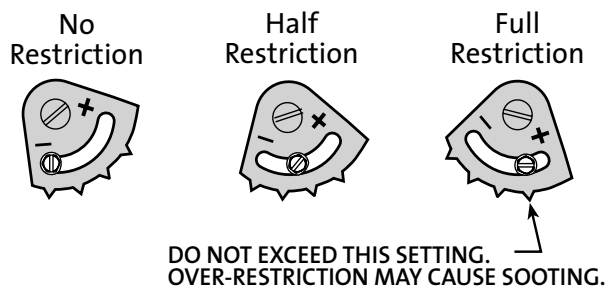
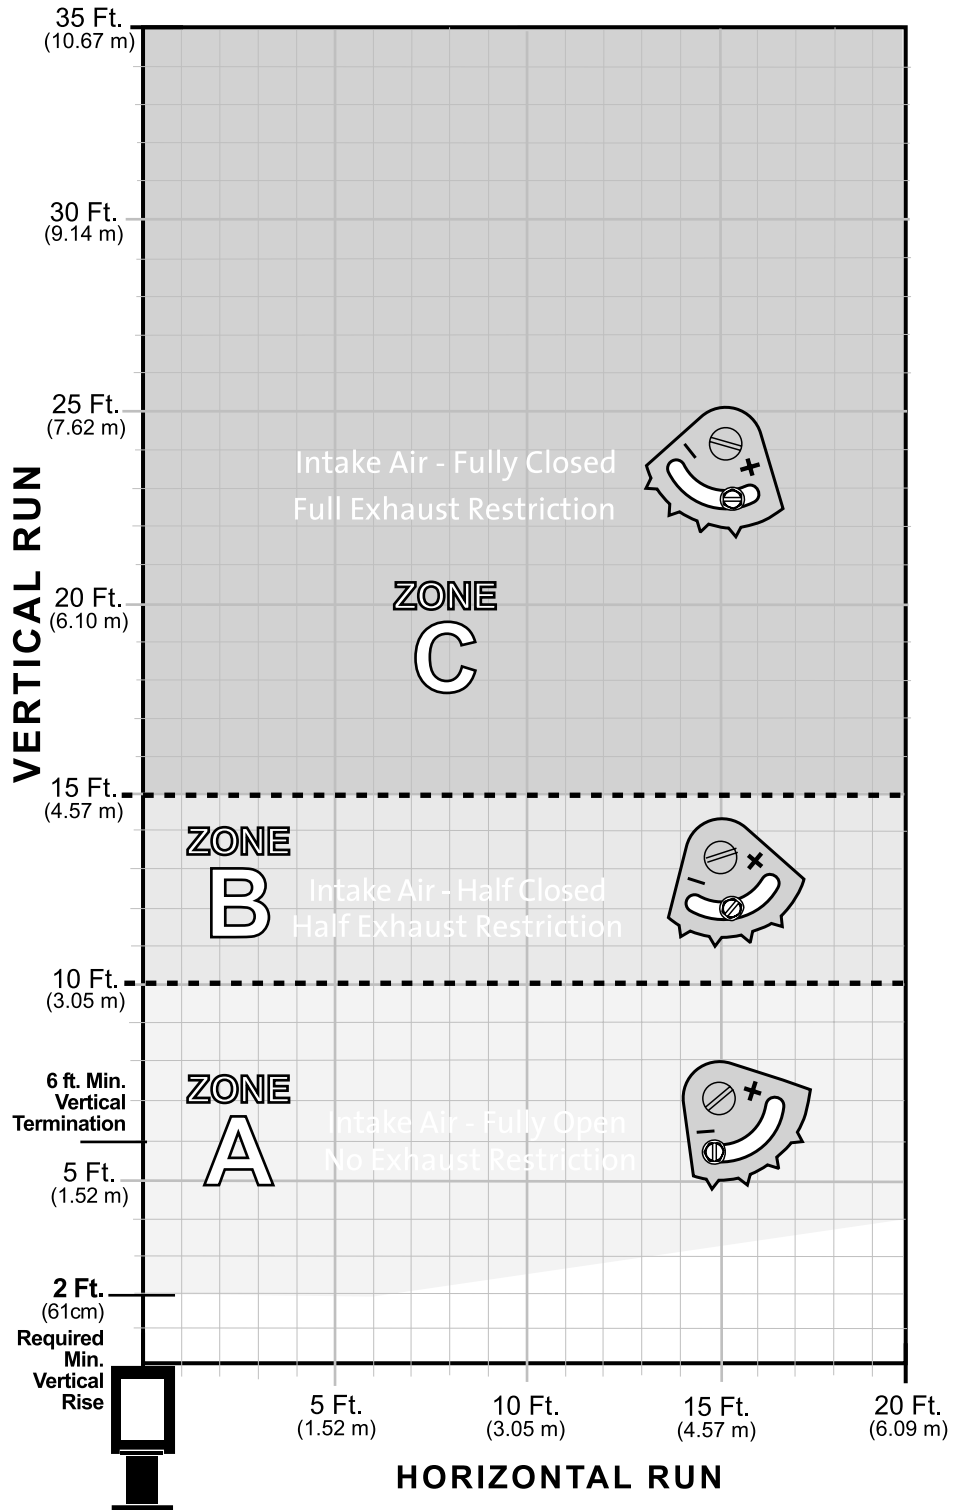

Figure 6.11. Exhaust Restrictor settings
Figure 6.13. Vent Termination Diagram.
Use the Vent Termination Diagram, fig. 6.13, to determine which zone your vent termination falls within and make the appropriate exhaust and air intake setting adjustments. Use these settings as general guidelines to start from. The final settings will ultimately be determined by the individual characteristics of your particular installation. There are no hard and fast rules.
2. Loosen the locking screw and turn the restrictor pivot plate to the appropriate indicator point as specified in the vent window diagram, figure 6.13. After the burner has been operating for 15 minutes, make any further adjustment in 1/8" increments until the desired flame picture is achieved. **Do not exceed the fully closed setting as shown in fig. 6.11.** Operate the burner for 10-15 minutes between additional adjustments.